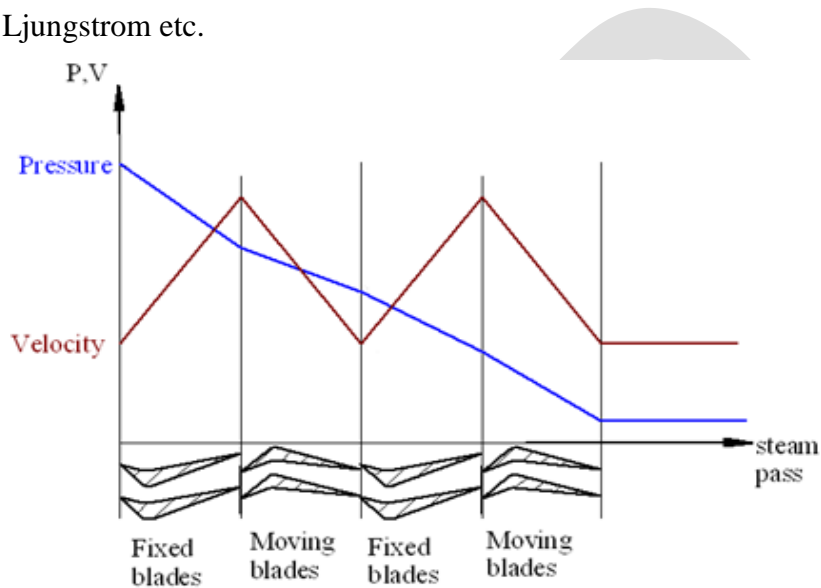

Fig. 3.2 Impulse reaction turbine
**3.2.2 Impulse Reaction Steam Turbine:** In the impulse reaction turbine, power is generated by the combination of impulse action and reaction by expanding the steam in both fixed blades (act as nozzles) and moving blades as shown in figure 3.2. Here the pressure of the steam drops partially in fixed blades and partially in moving blades. Steam enters the fixed row of blades, undergoes a small drop in pressure and increases in velocity. Then steam enters the moving row of blades, undergoes a change in direction and momentum (impulse action), and a small drop in pressure too (reaction), giving rise to increase in kinetic energy. Hence, such a turbine is termed as impulse reaction turbine. Examples: Parson, Ljungstrom etc.